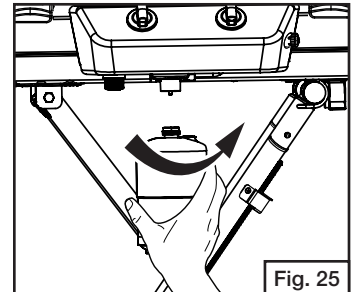

Fig. 25
- Remove plastic cap from top of propane cylinder and screw cylinder into regulator hand tight. (Fig. 25)